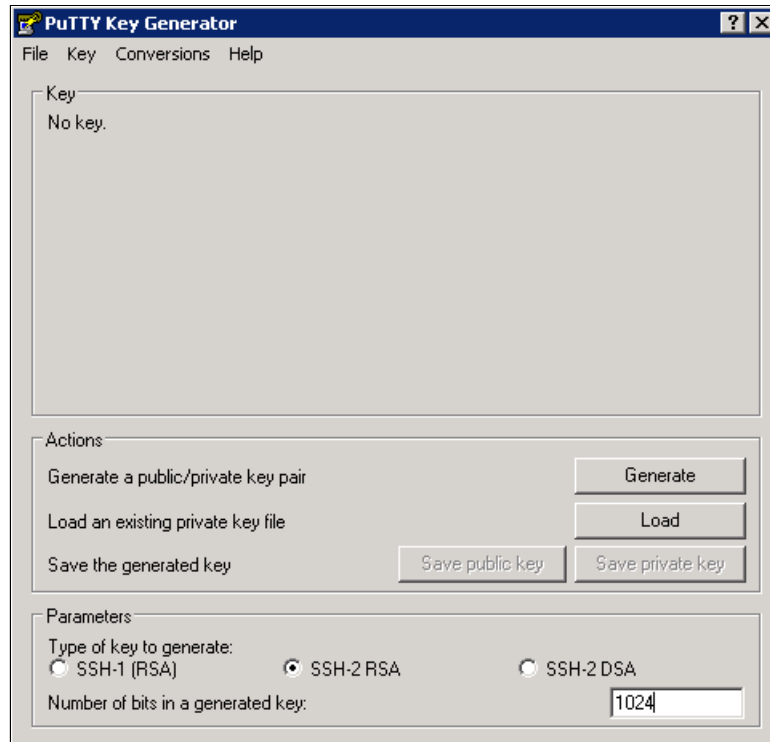

Figure 8-1 PuTTY Key Generator
1. Start the PuTTY key generator to generate the public and private key pair shown in Figure 8-1.